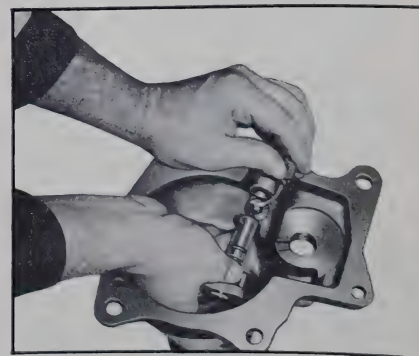

Figure 4-133—Installing Reverse Shifter Shaft
5. Place detent ball on spring and, holding ball down with a suitable tool (see Figure 4-133), push the shifter shaft into place and turn; the ball drops into place in detent on shaft detent plate.